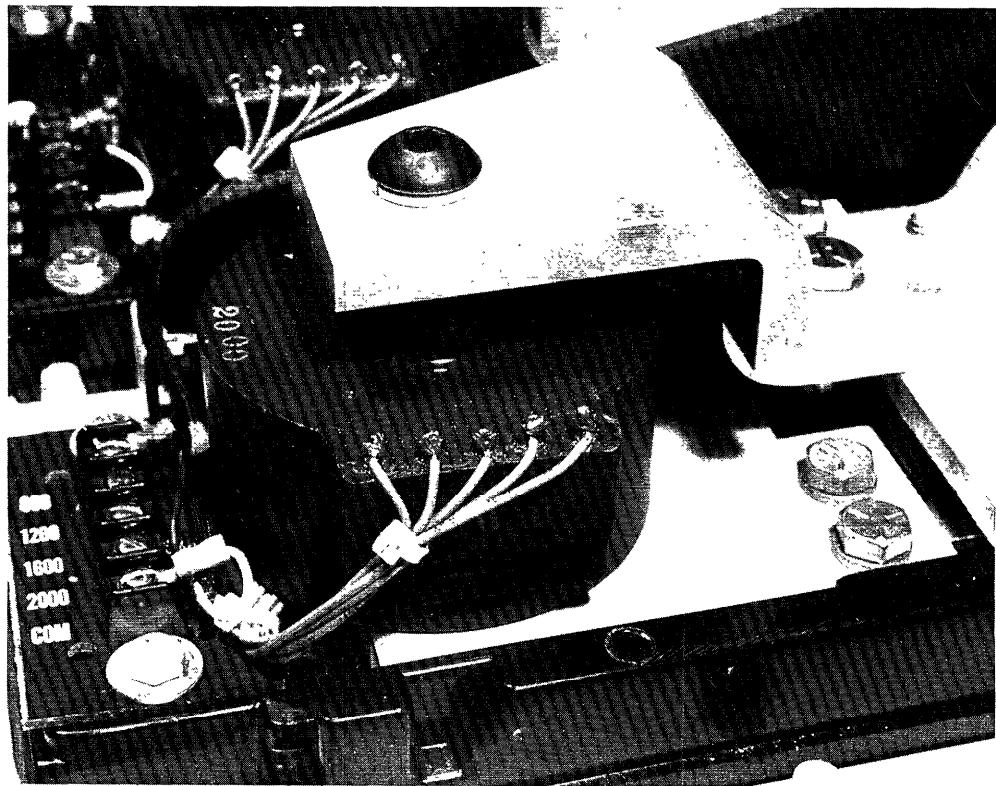

Fig. 11 — SST current sensor mounting.
- Mount the three (3) phase sensors (100) and their terminal boards as shown in Figs. 11, 12 and 13.